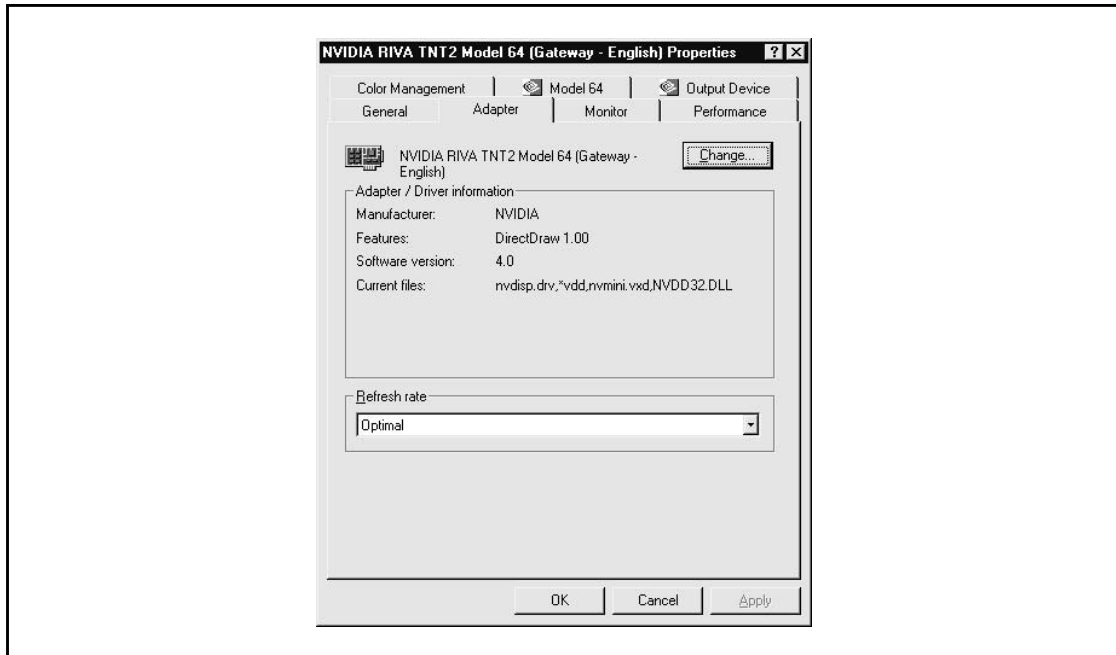

Figure 12-8. The Adapter tab on the Display Properties window
3. Select the Adapter tab and, as shown in Figure 12-8, a Refresh Rate setting is near the middle of the window. If it is not set to either Optimal or Adapter Default, you may want to check the documentation for the video card and monitor for the best rate. Typically, it will be around 70Hz or 72Hz. After clicking the OKs, restart the PC.